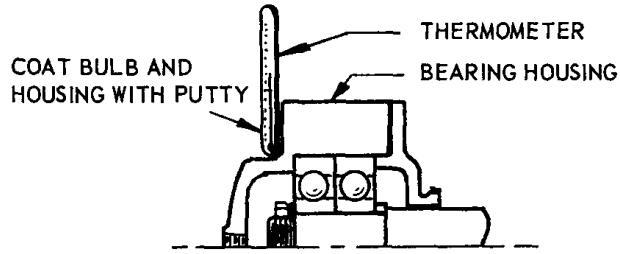

Figure 6 MEASURING BEARING TEMPERATURE
5. A high normal operating temperature is not a sign of bearing failure. Normal temperatures vary with the seasons and environment and may range from 0 to approximately 200° F. A continuous rise (determine as shown in Figure 6) from the **established, normal** operating temperature indicates trouble and probable failure of the bearing. Shut down the pump immediately. Disassemble, clean and inspect the bearing; replace it if required. Refer to Maintenance and Repair instructions.
9. After the pump has run a reasonable time, measure the temperature of bearing and stuffing box housings (see Figure 6). The temperature of the stuffing box should approximate that of the pumped liquid. If it is too hot (overheats), the packing is too tight. Stop the pump and repack. See Maintenance and Repair Instructions.